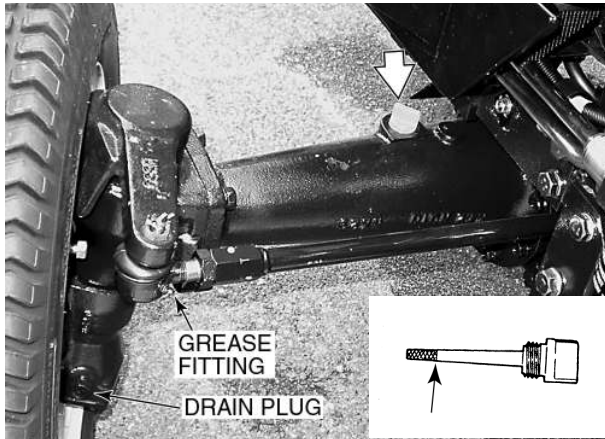

Figure 81 - Front Axle Oil Level Dipstick/Filler Plug
1. With the tractor standing level and the engine off, check the oil level with the dipstick, Figure 81.
3. Remove the dipstick/filler plug on the top, right side of axle housing, Figure 81, and fill with new oil of the type specified, page 35.